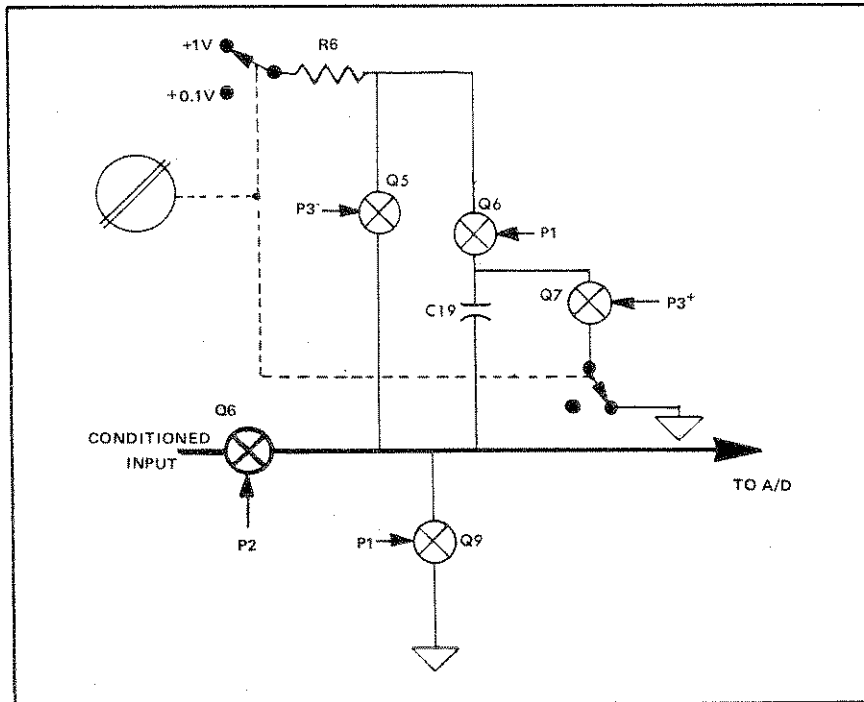

Fig. 3-5. Isopolar Reference Voltage Generation
a. Figure 3-5 is a simplified schematic of the complete circuit in the fold-out reference. The function Switch and Range Switch combination selects either +1.0 V or + 0.1 V according to the conditions of Table 3-1.